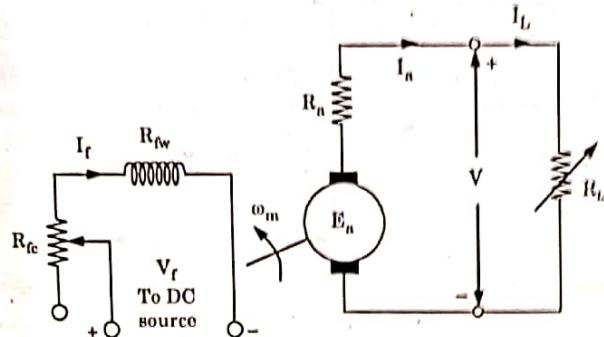

Fig. 2.15.1. Circuit model of a separately excited DC generator.
2. The circuit for a separately excited DC generator on load is shown in Fig. 2.15.1.